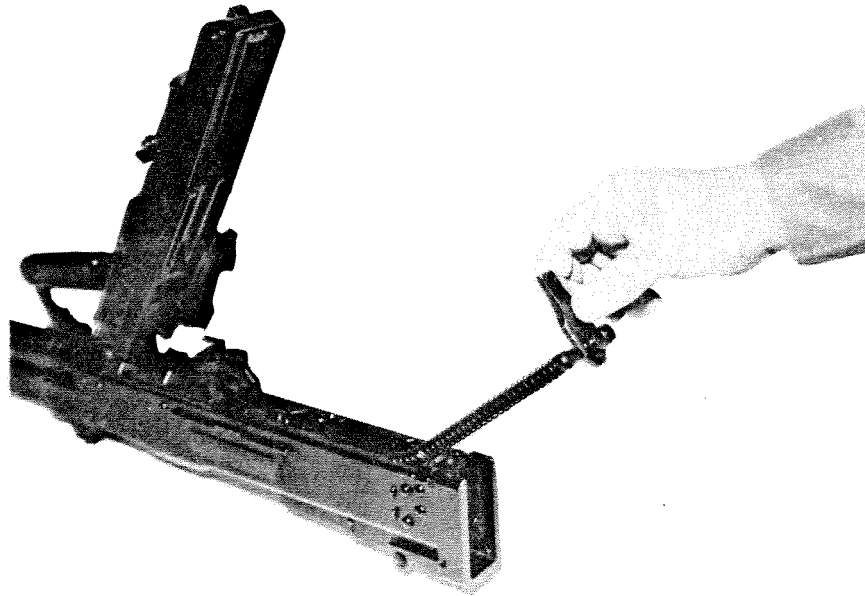

FIG. A-20 INSERTING MAIN SPRING
f. With the right hand, take the guide rod and slip the main spring onto it so that the first coil of the main spring enters the circular groove of the guide rod. While holding the rear of the weapon with the left hand, insert the guide rod with the main spring into the carrier block channel (Fig. A-20). Compress the main spring and push the guide rod forward and down as far as it will go. Insert the guide rod lug into the hole in the receiver rear wall and close the cover.